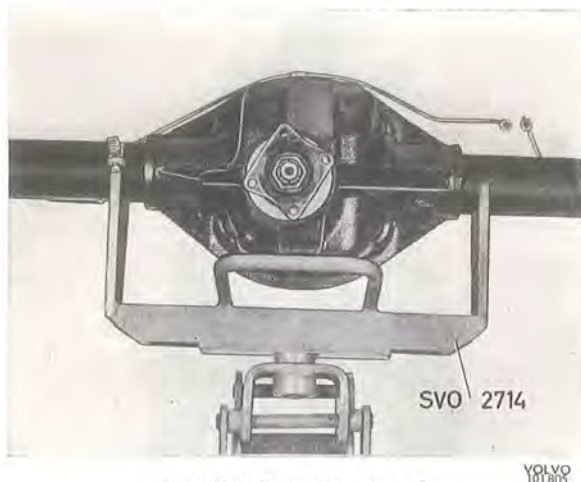

Fig. 4-163. Fixture for rear axle
1. Place the rear axle on fixture SVO 2714, which is mounted on a garage jack, see Fig. 4-163. Move the rear axle in under the vehicle and fit on the bolts for the support arms and torque rods.